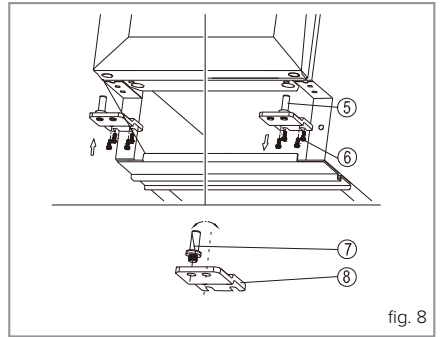

fig. 8
3. Remove the lower hinge (5) by removing the four screws (6) as shown in fig. 8. Support the door as you do this to prevent damage.
6. Unscrew and transfer pin (7) from the lower hinge plate to the opposite side as shown in fig. 8.